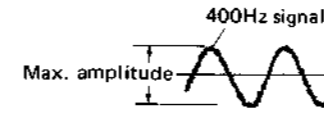

Fig. 1
1. Feed in a 90 MHz (400 Hz, 30% mod.) weak signal to TP101 from the FM signal generator. Adjust T101 for maximum amplitude of 400 Hz signal shown in Figure 1.